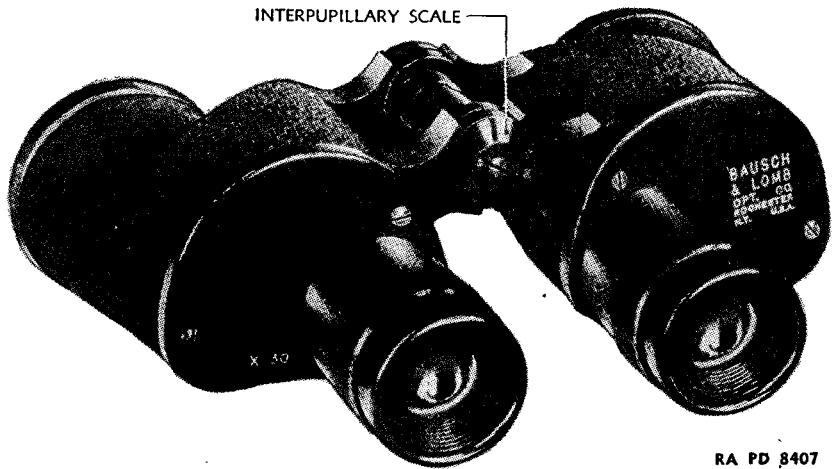

FIGURE 1.—Binocular M3 showing interpupillary scale.
2. Binocular M3 (figs. 1 and 2).—*a. Description.*—(1) This is the standard binocular field glass used for observation and approximate measurement of small angles. It has 6-power magnification and an objective pupil diameter of 30 mm.